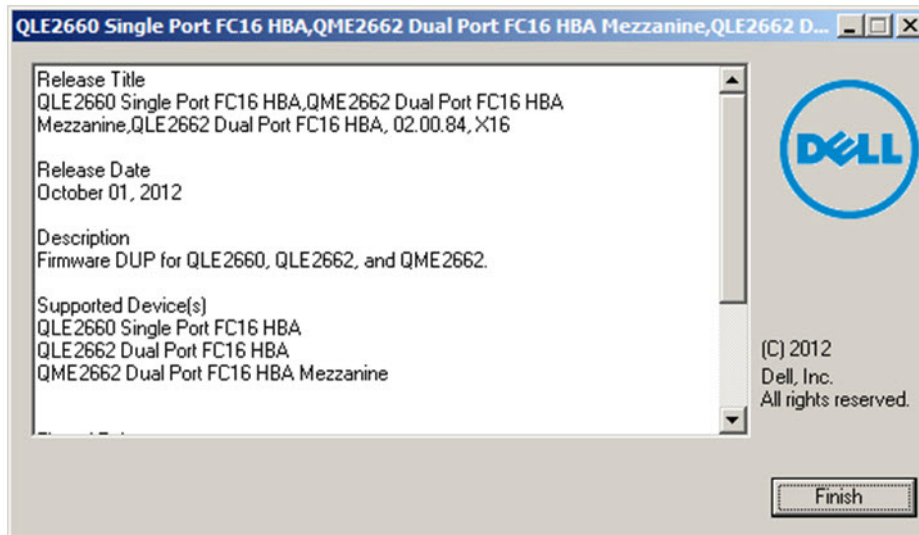

Figure 3-5. Finish Installation
5. To complete the installation, click **Finish** (Figure 3-5).